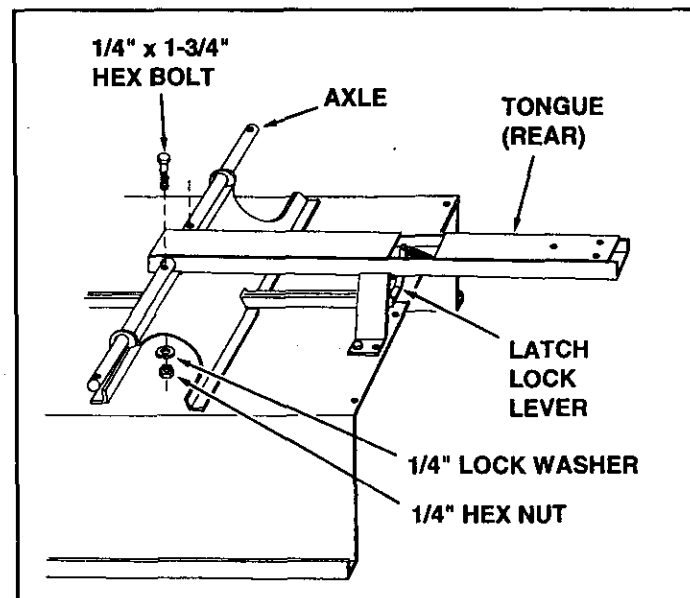

FIGURE 7
- Place the rear tongue onto the wheel support and the latch stand bracket. Assemble the axle through the ends of the wheel support and the tongue. Fasten the axle to the wheel support using two 1/4" x 1-3/4" hex bolts, 1/4" lock washers and 1/4" hex nuts. **Tighten.** See figure 7.